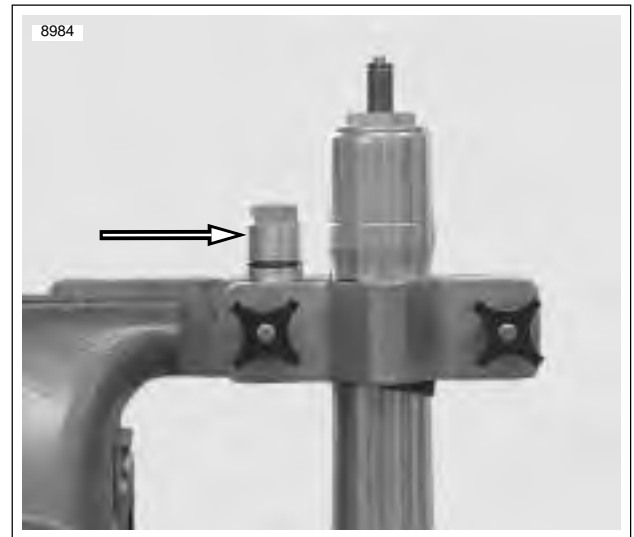

Figure 2-62. Removing Preload Adjuster
4. See Figure 2-62. Remove preload adjuster by turning counterclockwise.